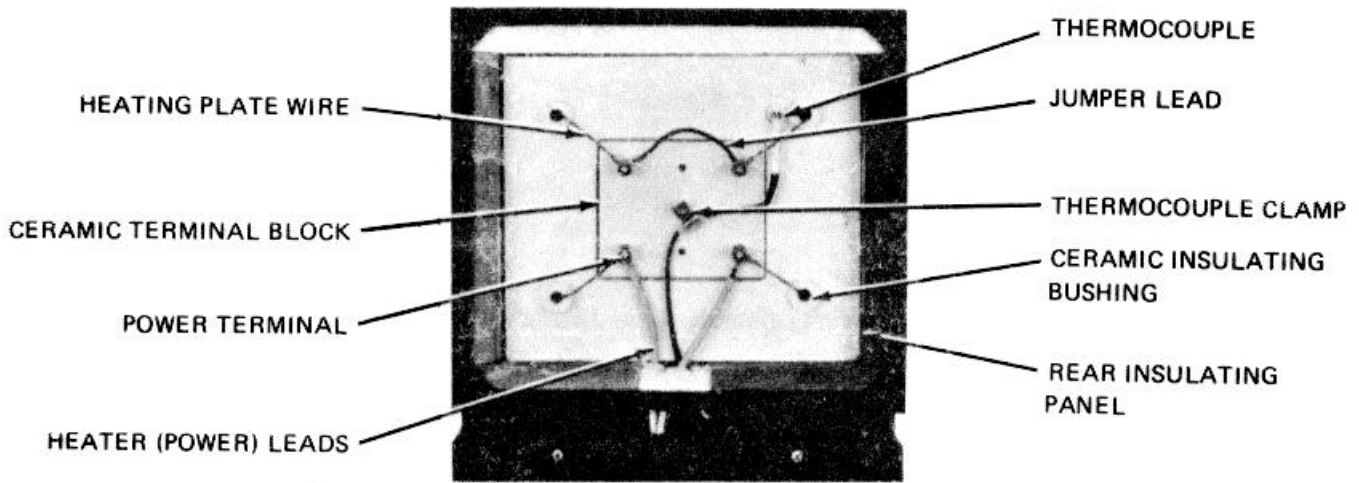

Figure 3. Temp-Master MA And MD (115V And 230V) With Upper Rear Panel Removed
1. Remove the upper rear panel. Refer to Figures 3, 4 and 5 on Page 7 for the location of the heater connections and arrangement of hardware.